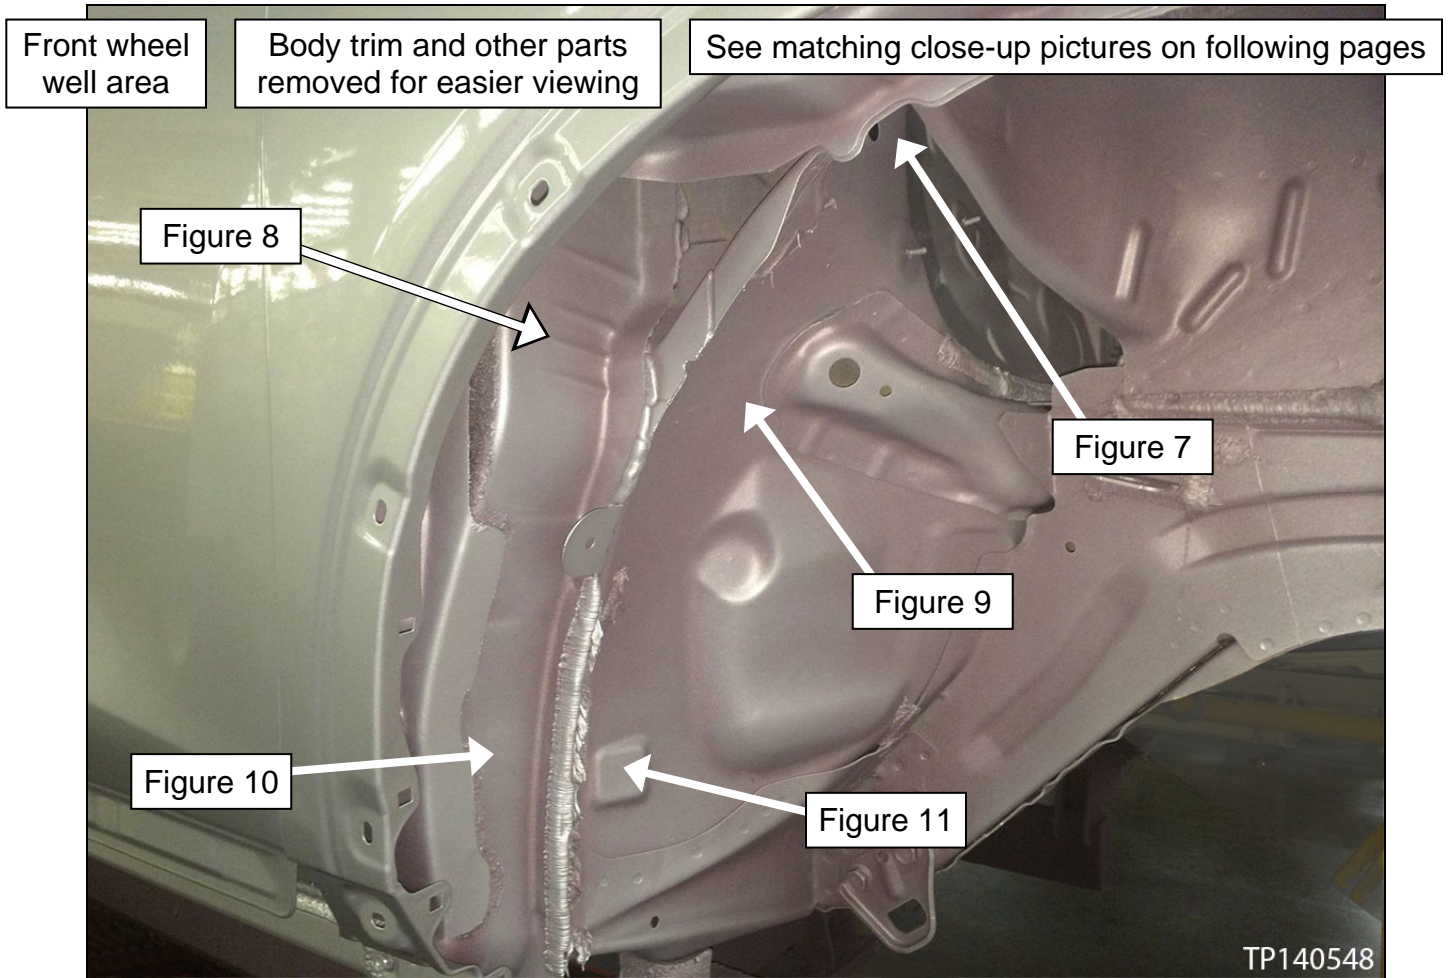

Figure 6: Body pieces removed for easier viewing
4. Inspect the areas shown in Figure 6 – 11 for body sealer or gaps in body sealer.